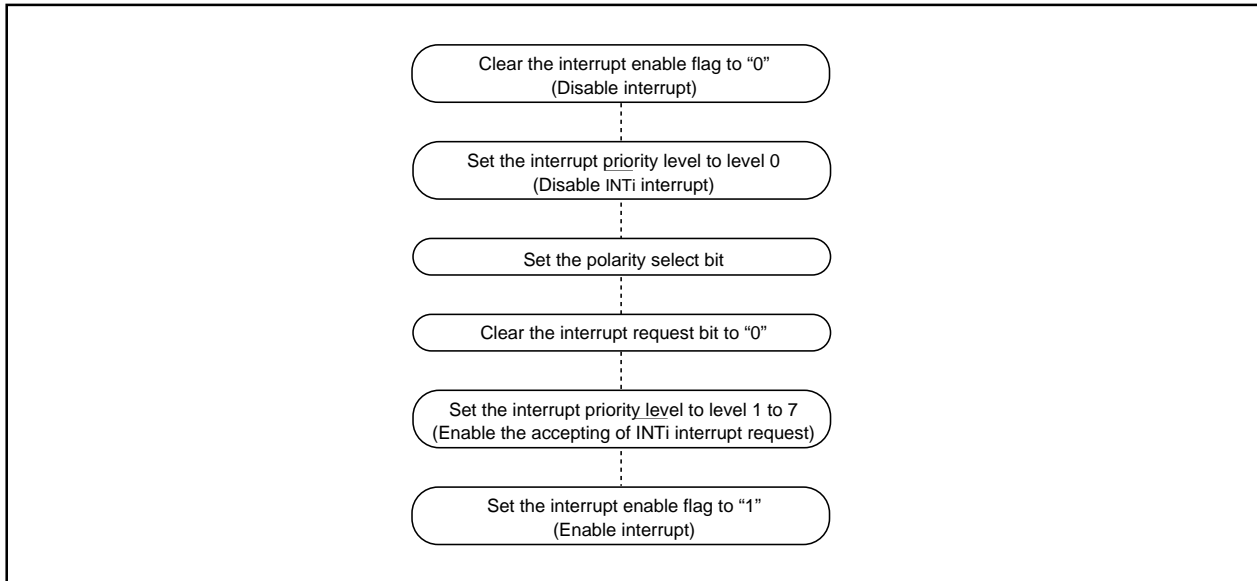

Fig.DD-21 Switching condition of INT interrupt request
(3) The $\overline{\text{NMI}}$ interrupt
(4) External interrupt
- When the polarity of the $\overline{\text{INT}}_0$ to $\overline{\text{INT}}_{11}$ pins is changed, the interrupt request bit is sometimes set to "1". After changing the polarity, set the interrupt request bit to "0". Fig.DD-21 shows the procedure for changing the $\overline{\text{INT}}$ interrupt generate factor.